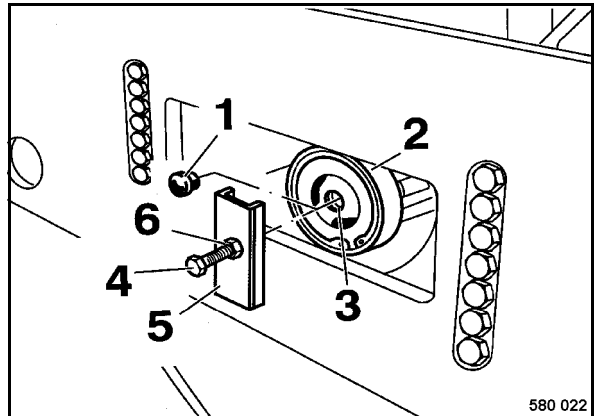

Fig. 50
- Remove plug 1 (Fig. 50).
- Place an U-section (5) across the brake housing (2) and turn the screw (4) into the tapped bore (3), until it bottoms.
- Turn the nut (6) down and tighten it approx. one revolution. The drum must rotate freely.